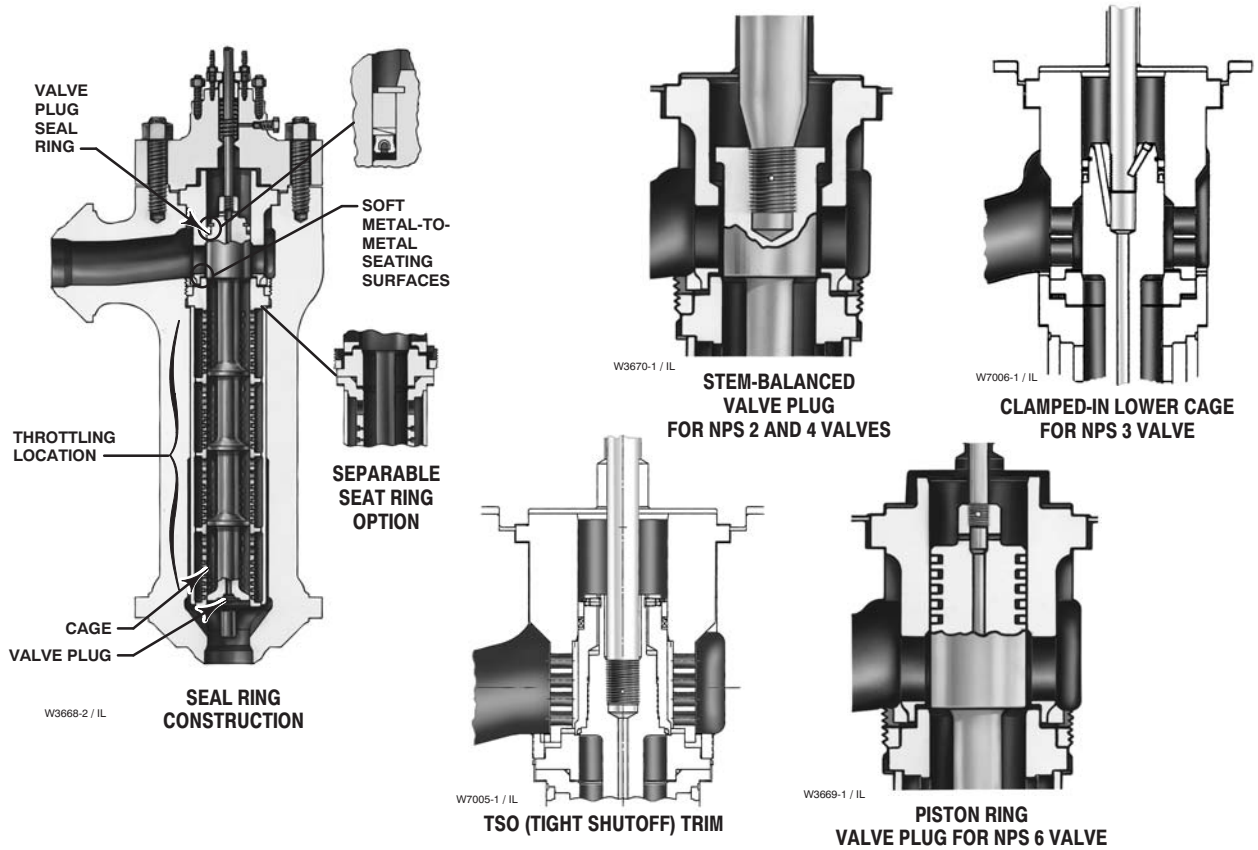

Figure 2. Sectional View of Design CAV4 Valve Body with Cavitol® IV Trim
The Design CAV4 valve's various valve plug constructions (figure 2) provide temperature capabilities through 417°C (800°F). The seal ring construction is used where temperatures are equal to or lower than 232°C (600°F) (see figure 6), and both the stem-balanced and the piston ring constructions are used with temperatures up to 417°C (800°F). In addition, the Design CAV4 valve is offered with either a separable seat ring for low-temperature (up to 232°C [450°F]) applications or with an integral seat cage for high-temperature (up to 417°C [800°F]) applications. The NPS 3 is available only with a clamped-in lower cage and replaceable seat ring.
- **TSO (Tight Shutoff) Trim**—Valves with TSO trim (figure 2) are factory tested to a more stringent Emerson Process Management™ test requirement of no leakage at time of shipment using ANSI/FCI Class V procedures.